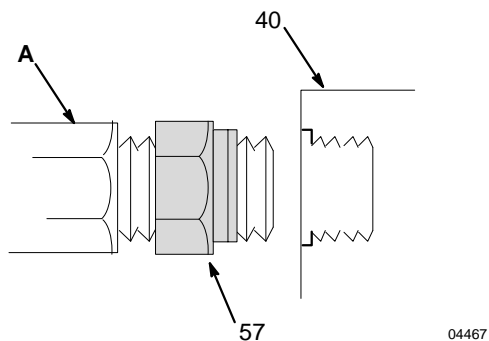

FIG. 1
NOTE: A 1 in. npt seal (57) is supplied in a plastic bag with the motor. Thread the seal onto the threads of your hydraulic return line fitting (A). Thread the fitting into the upper housing (40) and torque as needed. Then tighten the seal (57) against the motor to provide a secure seal. See Fig. 1.